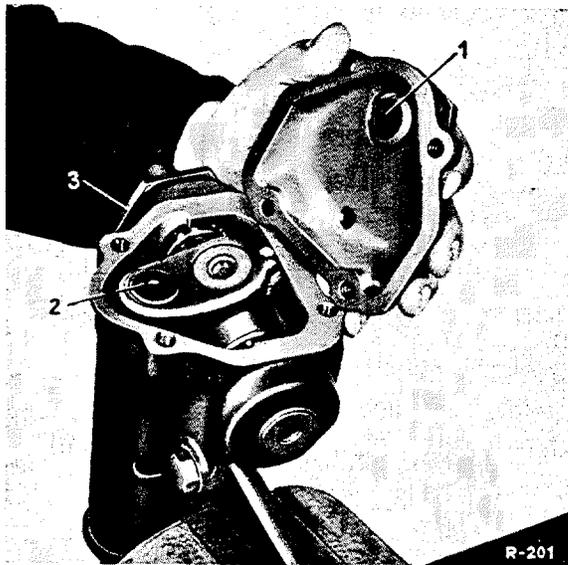

Fig. L 4/1
3. Unscrew the hexagon nut (7) and the set screw (6) in the housing cover to the point where the pressure sleeve (4) is no longer under stress (see Fig. L 4/6).
4. Remove the four housing cover fixing screws and remove the cover and gasket. Take out the pressure sleeve (1) together with the compression spring (Fig. L 4/1).